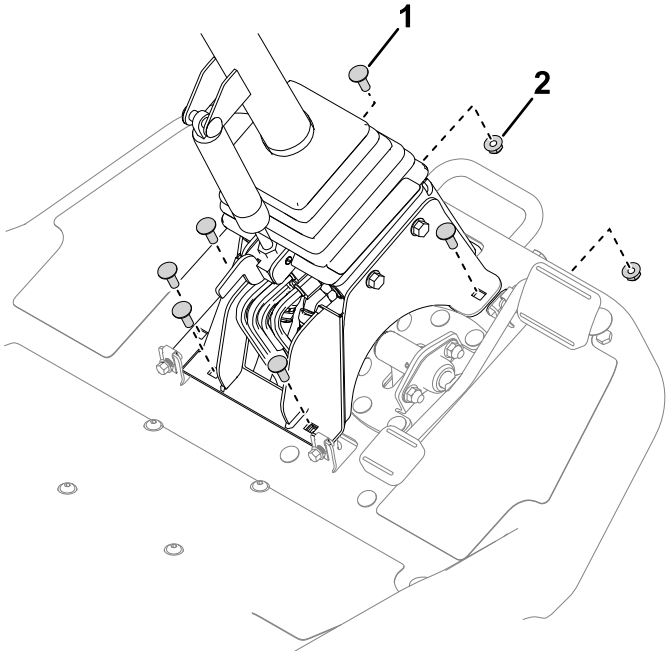

Figure 15
2. Use 6 carriage bolts and 6 nuts to secure the steering-mount bracket to the frame (Figure 15).